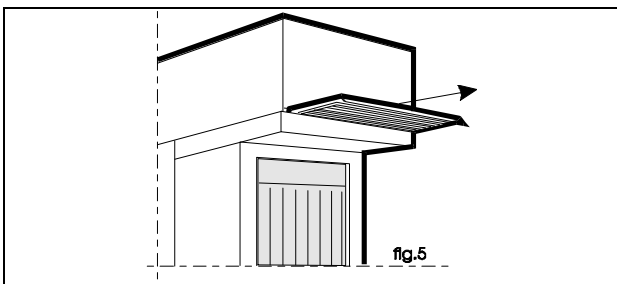

fig.6 – Steam condenser
- 9 - For machines with steam condensation only, remove the steam aspiration filter (fig.6) and clean it.